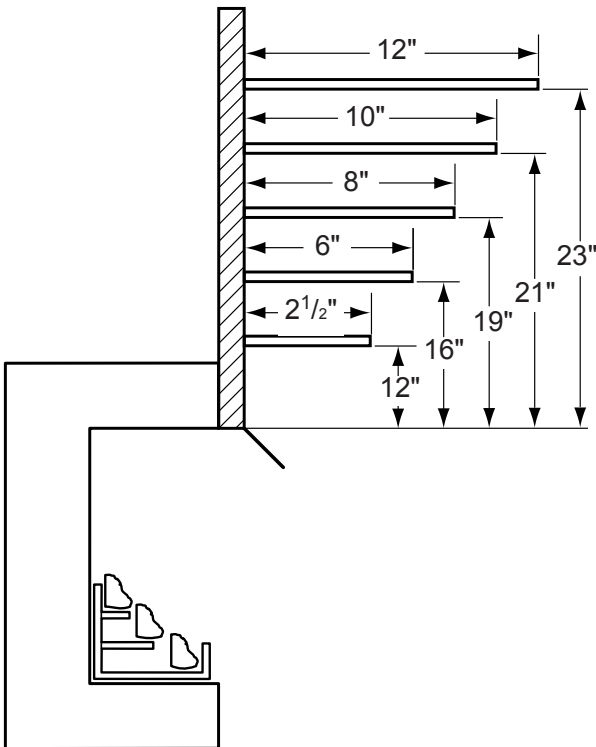

Figure 5 - Mantel Clearances
4. **Mantel clearances:** The canopy supplied with the unit must be installed. If a combustible mantel is installed, it must meet the clearance requirements as shown in *Figure 5*. However, if lower mantel height is desired, refer to page 14 for canopy options.